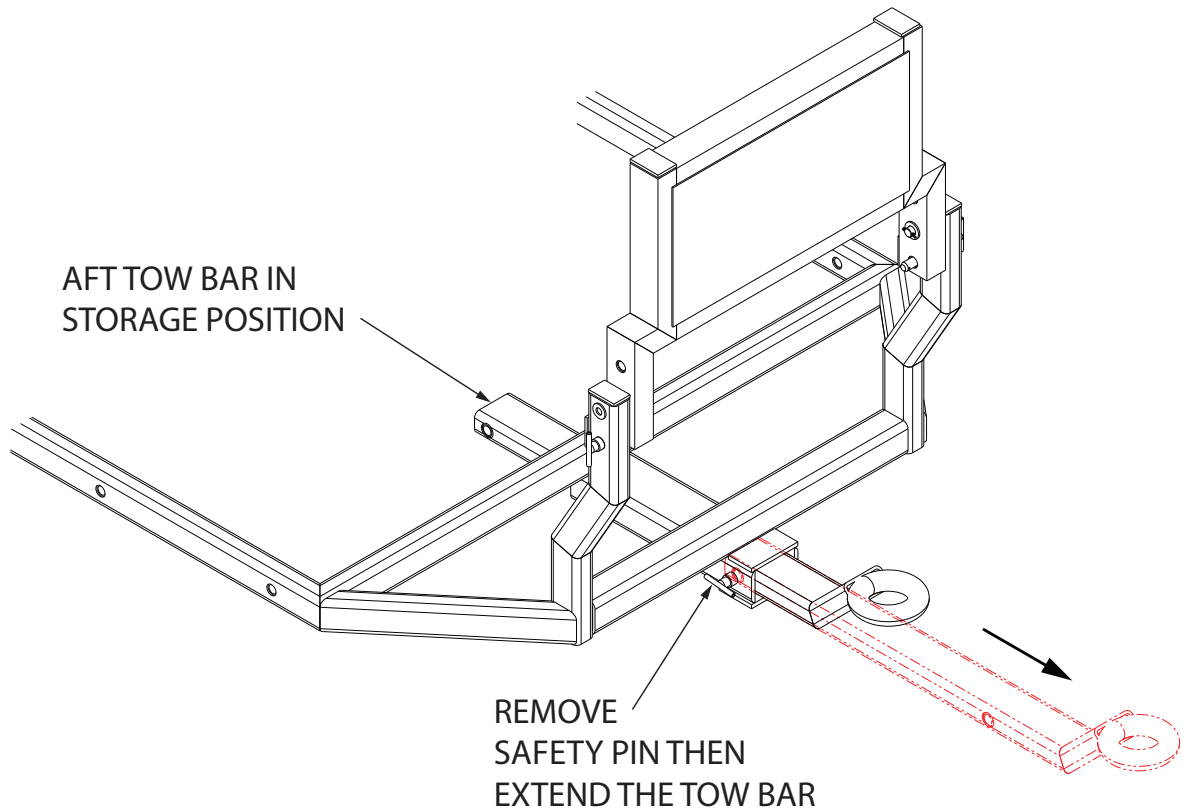

Figure 5.5-1 Tow Bar Installation
5.5 Stand Towing (Figure 5.5-1)